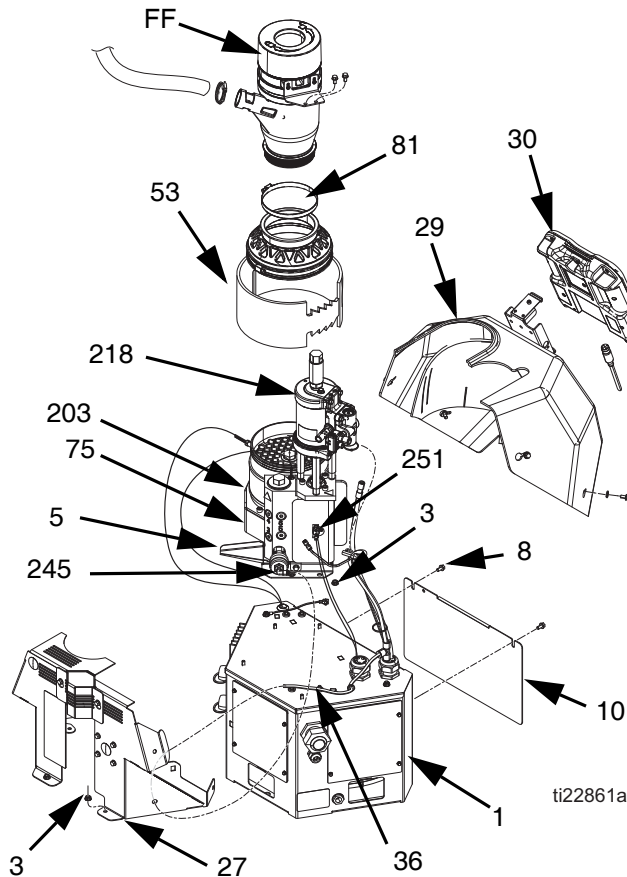
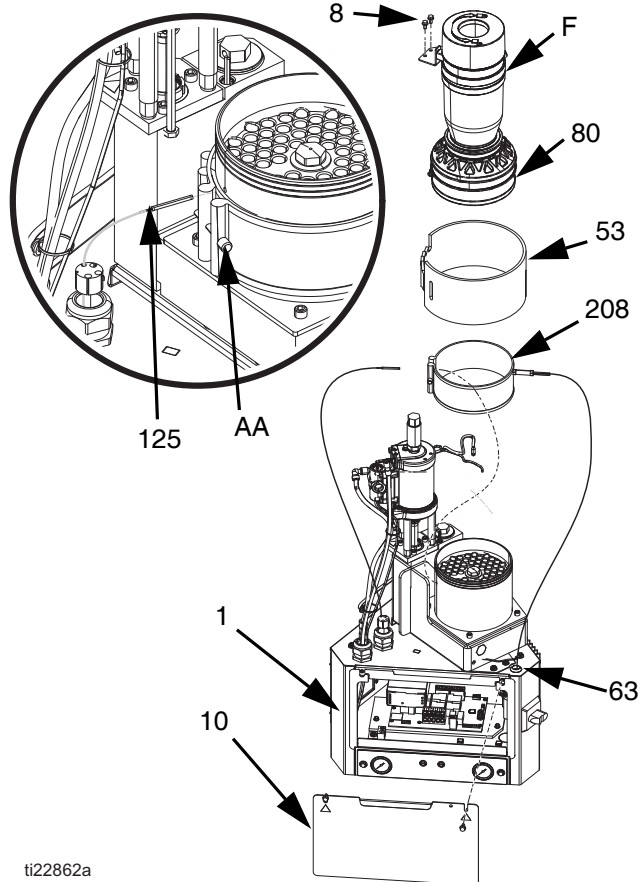
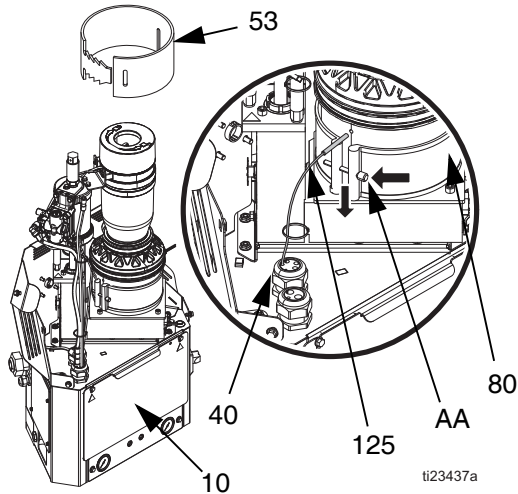
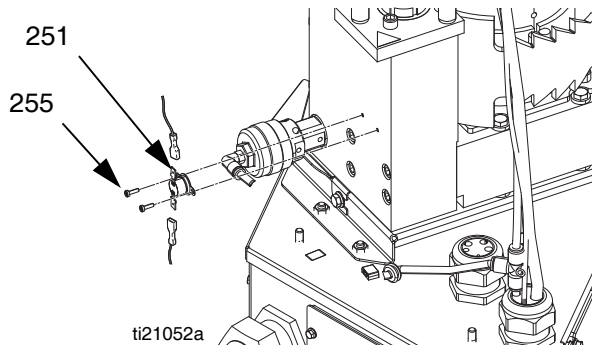

FIG. 37
FIG. 39
FIG. 40
FIG. 41
5. Remove cable from ADM (30) then slide forward the shroud (29) and remove it from the system.
6. Remove screws (8) then remove electrical enclosure front access door (10).
8. Remove the air tube (36) from the relief valve (245). Pull the air tube from the metal shroud (27).
9. Remove nuts (3) on the back metal shroud (27) then remove shroud.
10. Remove fabric melter insulator (53).
11. Loosen screw (AA) then remove sensor (125). See FIG. 40, page 68.
12. Loosen hose clamp (81) then remove funnel (FF).
13. Remove wire connectors from the over-temperature switch (251).
14. Remove insulators (53, 75) from the melter assembly (5).
15. Disconnect the fill sensor cable from the fill sensor (20). See **Replace Fill Sensor**, page 73.
17. Remove the air tube from the air motor (218).
18. Loosen screw (AA) then remove sensor (125). See FIG. 39 on page 67.
19. Disconnect ground screw (87) and ring terminal (88) from melter assembly.
- Connect air tube to air motor (218).
- Connect fill sensor cable to the fill sensor (20).
- Install funnel (FF) then tighten clamp (81).
- Install temperature sensor (125) into melter then tighten screw (AA) on band heater. See FIG. 39 on page 67.
- Install insulators (53,75) onto the melter assembly (5).
- Connect ground wire ring terminal (87) and ground screw (88) to melter assembly (5).
- Connect wire connectors to the over-temperature switch (251). See FIG. 41 on page 69.
- Use nuts (3) to install metal shroud (27).
- Pull the relief valve air tube (36) through the metal housing then attach air tube to relief valve (245).
- Install front access door (10) onto electrical enclosure (1).
- Reconnect all heated hoses to the melter outlet manifold (203).
Disassembly (see FIG. 39):
Reassembly (see FIG. 39):
- Install electrical enclosure access door (10). See FIG. 39.
- Use clamp (80) and screws (8) to install funnel assembly (F) on melter assembly. Ensure rubber housing is fully seated on melter or incorrect refilling may occur. Tighten band clamps to 25 in-lbs.
- Install fabric melter insulator (53).
Disassembly (see FIG. 40):